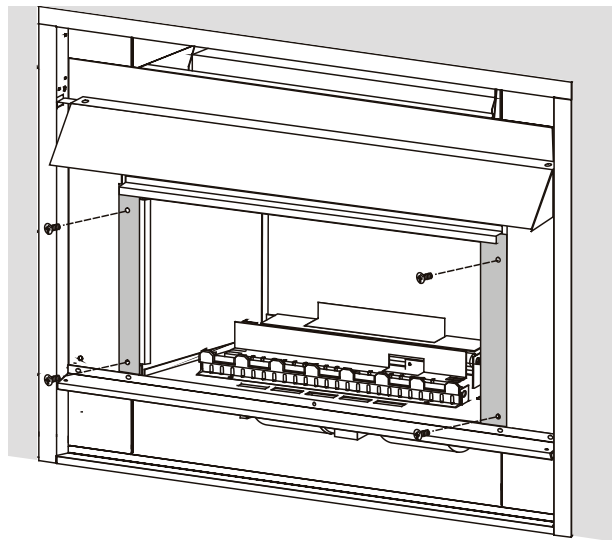

Figure 23. *Removing and installing the glass door.*
14. Remove the glass door as shown in Figure 23. Remove the plastic shipping ties and padding from the two bottom logs. Install the top logs as shown in Figure 8b and 8c. Re-install the door.